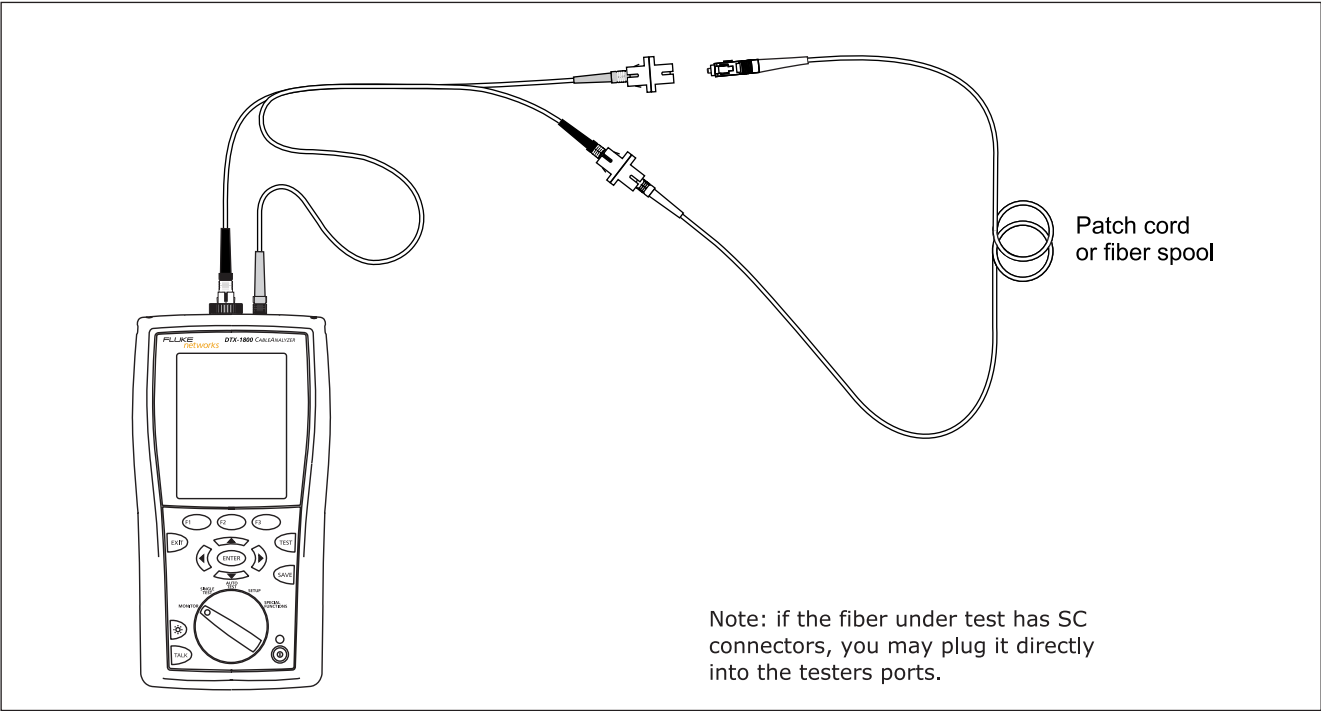

Figure 7-25. Using FindFiber in Loopback Mode
- 3 Clean all connectors; then connect the tester's OUTPUT fiber to one end of the fiber path, as shown in Figure 7-25.